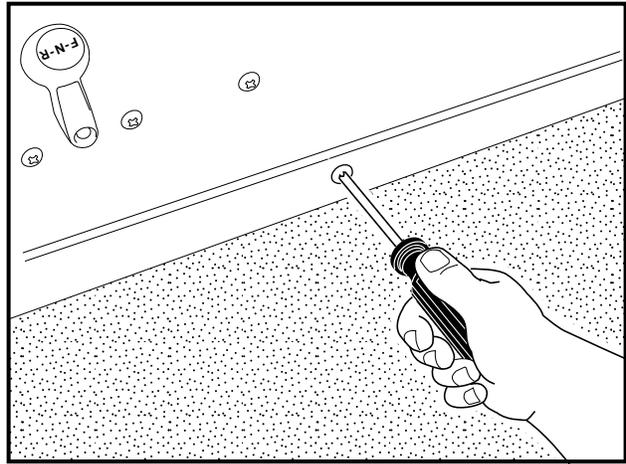

Figure 4-3 Remove Kick-Plate Screws
3. Remove two screws located at the bottom edge of the seat support panel (in kick-plate below the Forward/Reverse handle and just above the floormat) (**Figure 4-3, Page 4-6**).
1. Install two screws in kick-plate. Tighten to 20 in.lb (2.3 N-m) **(Figure 4-3, Page 4-6)**.
2. Loosen two screws in the rear body kick-plate **(Figure 4-3, Page 4-6)** and pull the rear edge of the floormat from between the rear body and the floor panel.